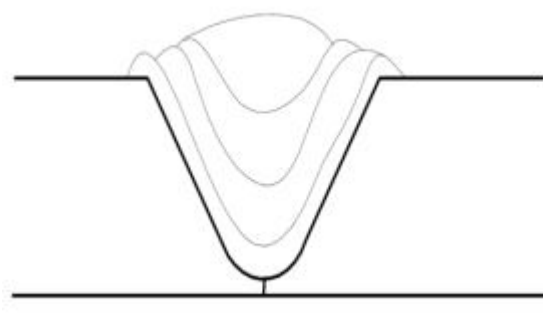

Fig. 2 – Filled channel on material top side
- 9 The adhesive must be applied in layers of approx. 2 mm thickness into the channel. The first layer must cover all areas of the channel and must protrude approx. 2 mm over the channel edge (Fig. 2). Any air bubbles or dirt particles can be pushed into the bead of adhesive to the top, as this will later be sanded away again. Next layers will be applied when the last layer is after approximately one hour hardened so far that it is not possible to push a nail or wire in.